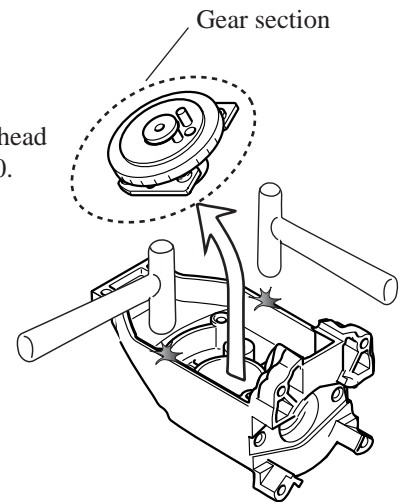

Fig. 17C
8. Holding the flat portion of gear shaft with a wrench, unscrew hex socket head bolt M10x18. Then, gear complete can be removed from gear shaft. See Fig. 17C.